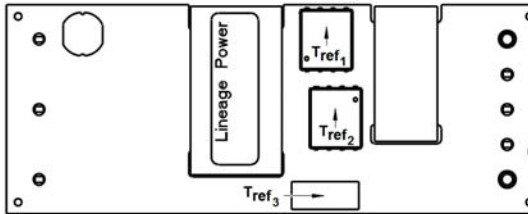

Figure 13.  $T_{ref}$  Temperature Measurement Location for Open Frame Module.
To provide protection under overtemperature fault conditions, the unit is equipped with a thermal shutdown circuit. The unit will shutdown if the thermal reference points  $T_{ref}$ , (Figure 13), exceed 138 $^{\circ}$ C (typical). However, the thermal shutdown is not intended as a guarantee that the unit will survive temperatures beyond its rating. The module restarts automatically after the unit cools down below the overtemperature protection thresholds.
The thermal reference points,  $T_{ref}$ , used in the specifications for open frame modules are shown in Figure 13. For reliable operation  $T_{ref1}$  and  $T_{ref2}$  temperatures should not exceed 125°C and  $T_{ref3}$  temperature should not exceed 110 °C.